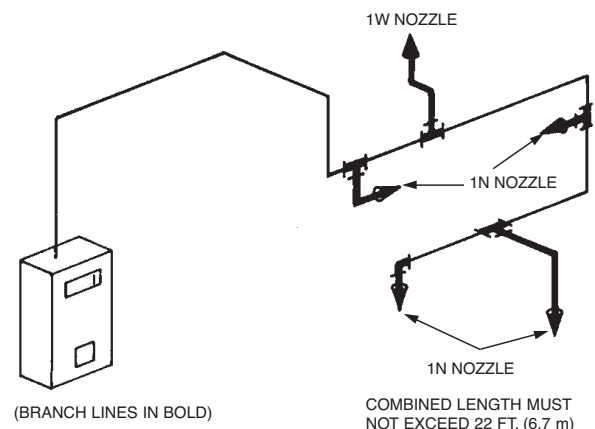

FIGURE 92
7. The combined length of all branch lines must not exceed 22 ft. (6.7 m). See Figure 92.